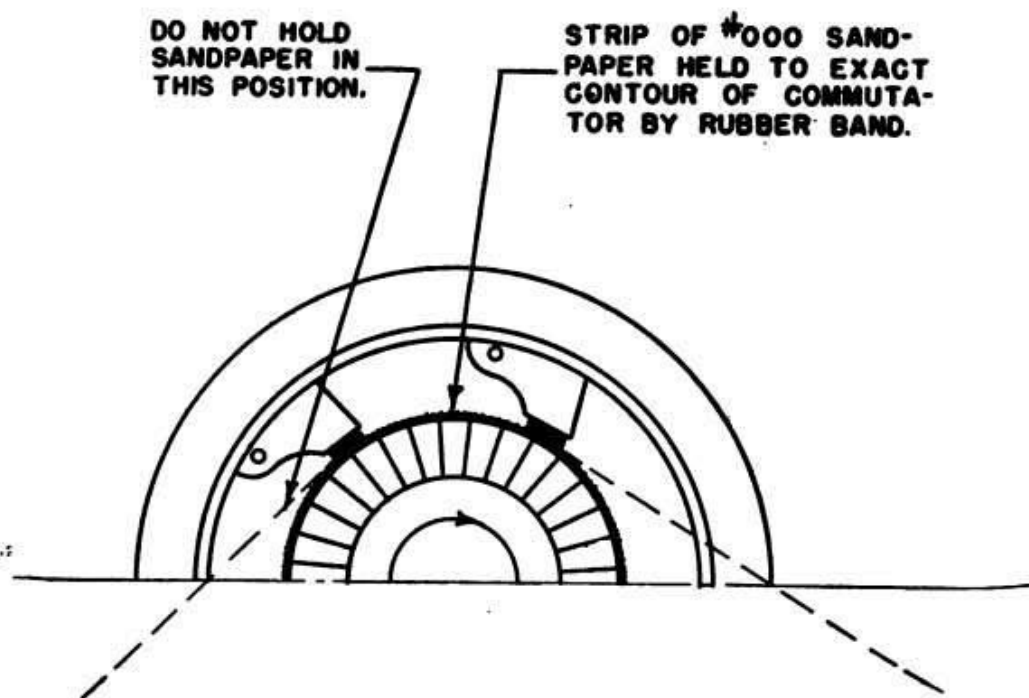

Figure 66. Correct method of seating generator brushes.
(3) **BRUSH ASSEMBLY.** Check the generator brush assembly for loose connections, worn or sticking brushes, and low spring tension. Replace brushes which are worn to less than the minimum allowable length. When a worn brush is replaced, the new brush must be properly seated by using No. 000 sandpaper, as shown in figure 66. Clean sticking brushes and holders with a gasoline-saturated rag.